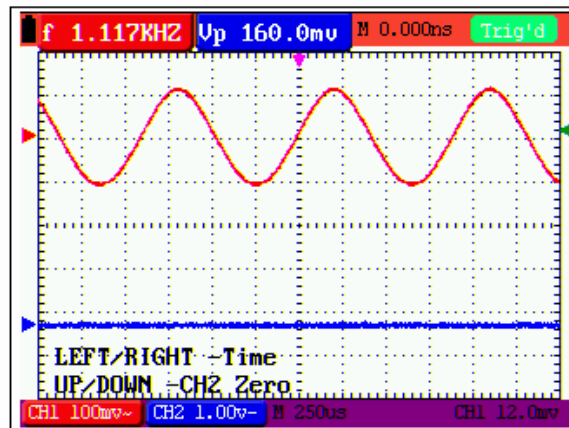

Figure 9: Zero Point Position of Channel 2
7. Again, press **OSC OPTION** key and the following appears at the bottom left side of the screen, shown as the following figure 9: